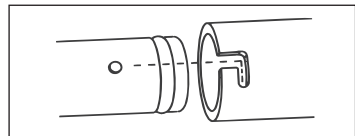

Figure 4
7. Press distal hub of catheter contamination shield over assembly cap. Twist to lock (refer to Figure 4).